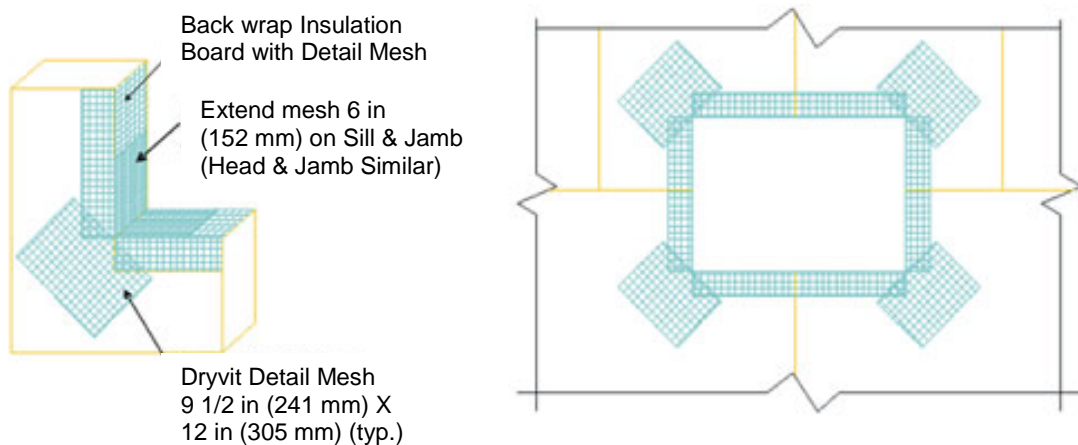

Figure 31
- a. At penetrations, align the I.S. Closure Blocks so that the edges (vertical and horizontal joints) do not coincide with the corners of the opening as illustrated in Figure 31.
17. Corners of all openings such as windows, doors, mechanical equipment and all penetrations shall be reinforced with Detail Mesh placed diagonally to the opening as illustrated in Figure 31 previously.